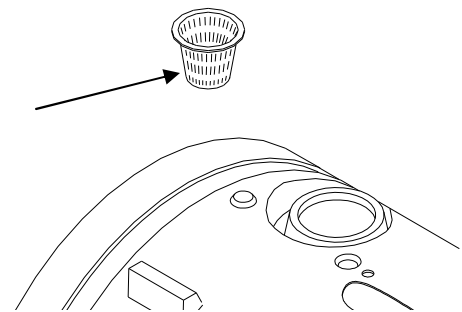

FIG 119-3
**STRAINER BASKET**– There is a strainer basket in the top fill opening of the solution tank (fig. 119-3). Check the basket for any debris before using the opening to fill the tank. Do not remove the strainer except for cleaning.